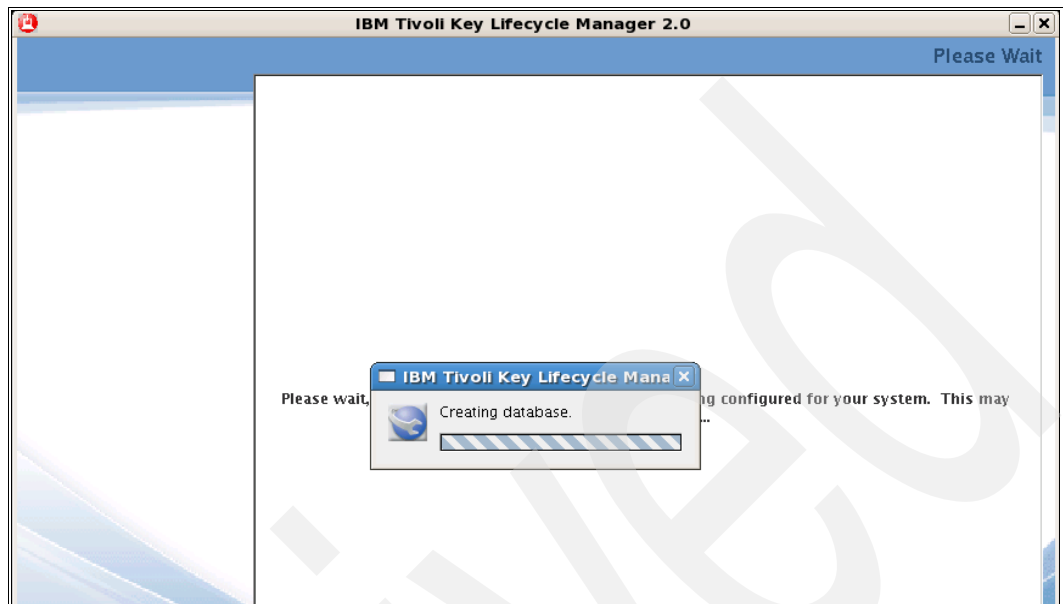

Figure 7-10 Database creation
13. When the middleware has been installed, the wizard automatically starts creating the database, displaying the screen shown in Figure 7-10. Again, do not touch the keyboard or mouse during this process.